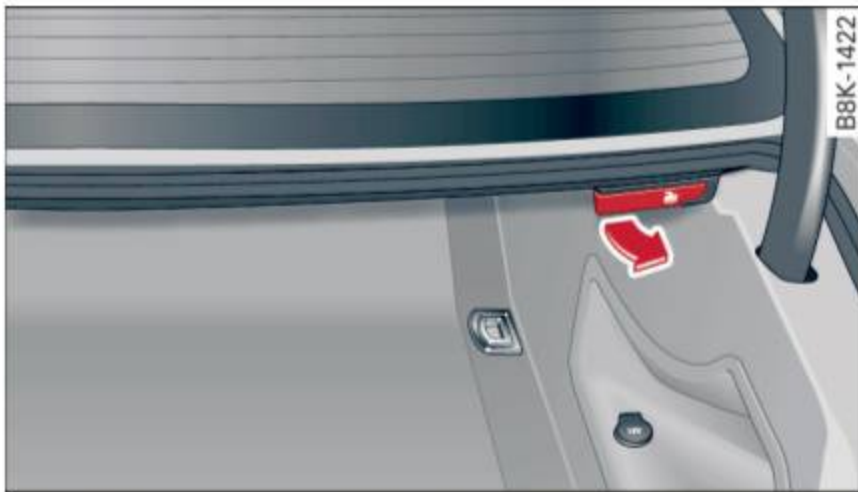

Fig. 67 Luggage compartment: release lever
- ▶ Pull the release lever ⇒ *fig. 67* in the direction of the arrow to fold the backrest forward.